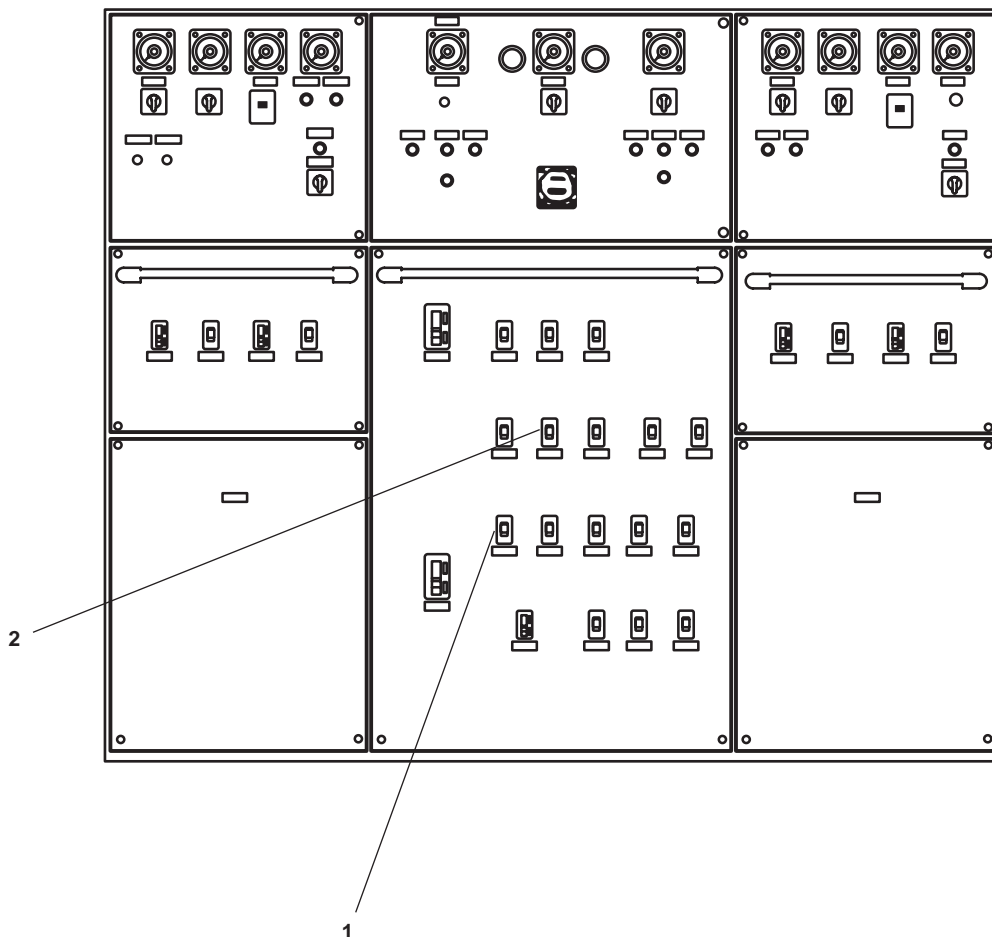

Figure 3. Main Switchboard
- a. At the main switchboard in the EOS, verify that the ENGINE ROOM PWR PNL NO.1 circuit breaker (figure 3, item 1) is set to ON.
3. Align the electrical system at the main switchboard in the EOS by setting the LUBE OIL PURIFIER circuit breaker (figure 3, item 2) to ON.